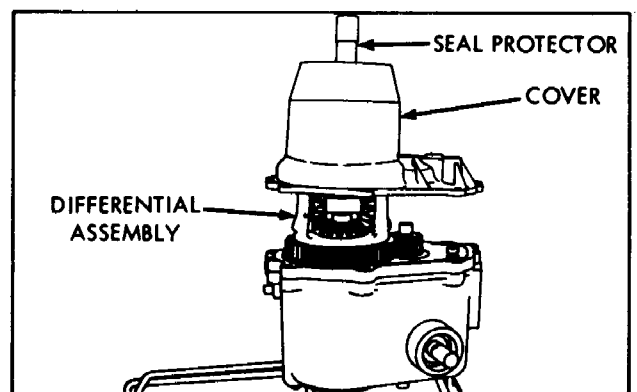

Figure 2-4
4. Lift off the cover assembly. Use a seal protector on axle shaft and lift off transaxle cover assembly. (Fig 2-4). Because this seal is a single lip type, it may be reused, if care is taken to see that it isn't scratched or cut. Discard gasket.